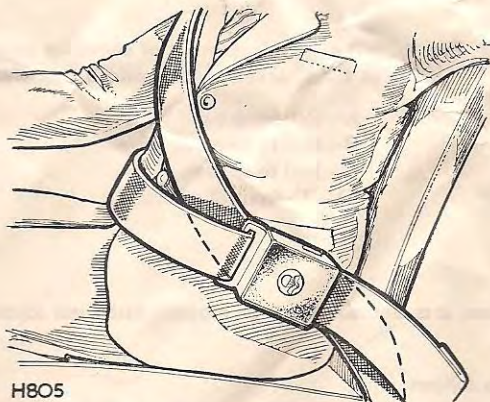

Fig. 6 Showing safety harness in correct position, right-hand position illustrated
9. With the occupant seated in the front seat, the diagonal shoulder strap should pass over the outboard shoulder, as shown at Fig. 6. Right-hand position illustrated.
11. Before carrying out the initial adjustment of the diagonal strap at the sill bracket, seat position must be correct for occupant. Try the lap belt round the body for buckle position and make visual assessment of adjustment required, in accordance with instructions at item 10 and Fig. 6.